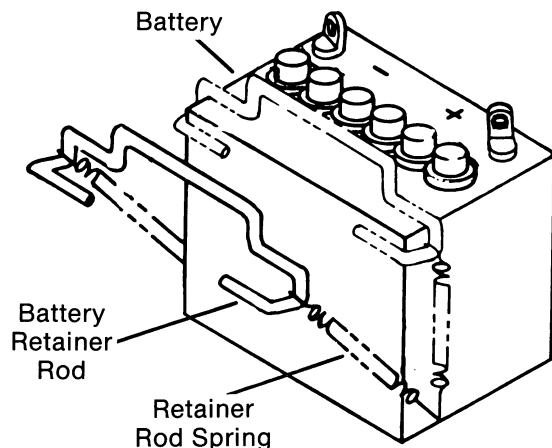

FIG. 31
- Turn ignition key "OFF". Remove battery retainer rod from battery and slide battery forward. (Fig. 31)